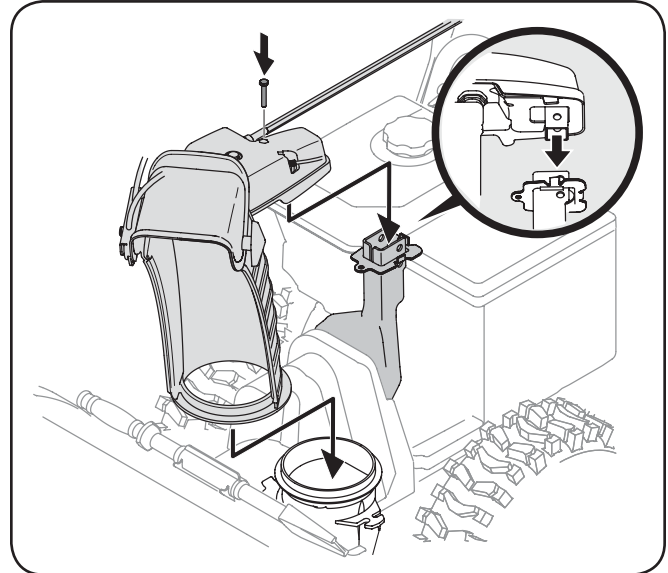

Figure 3-5
3. Place chute onto chute base and ensure chute control rod is positioned under the handle panel. Install hex bolt previously removed but do not secure with wing nut at this time. See Fig. 3-5.